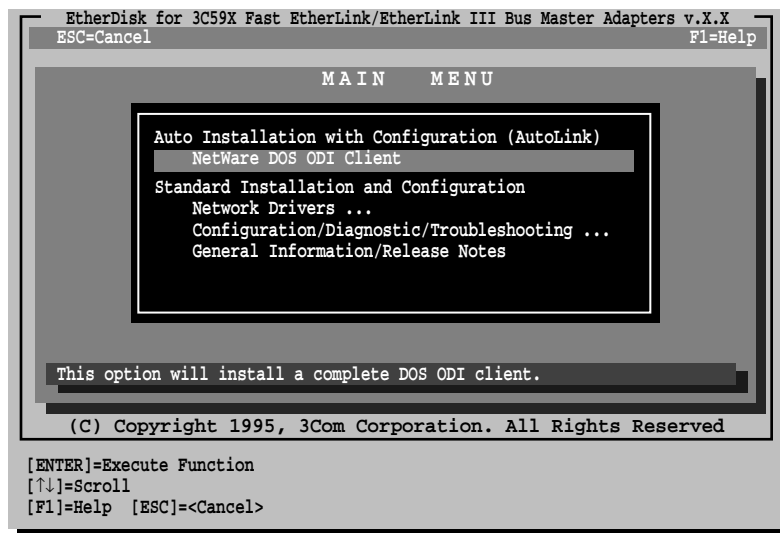

Figure 3-2 Main Menu
- 6 When the main menu screen shown in Figure 3-2 appears, select NetWare DOS ODI Client, and press [Enter].
- 1 With the main menu displayed (Figure 3-2), select **Network Drivers**.